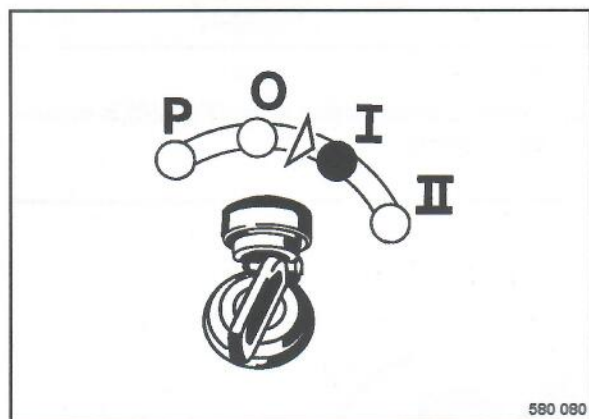

Fig. 29
- Turn the ignition key (Fig. 29) to position "I".